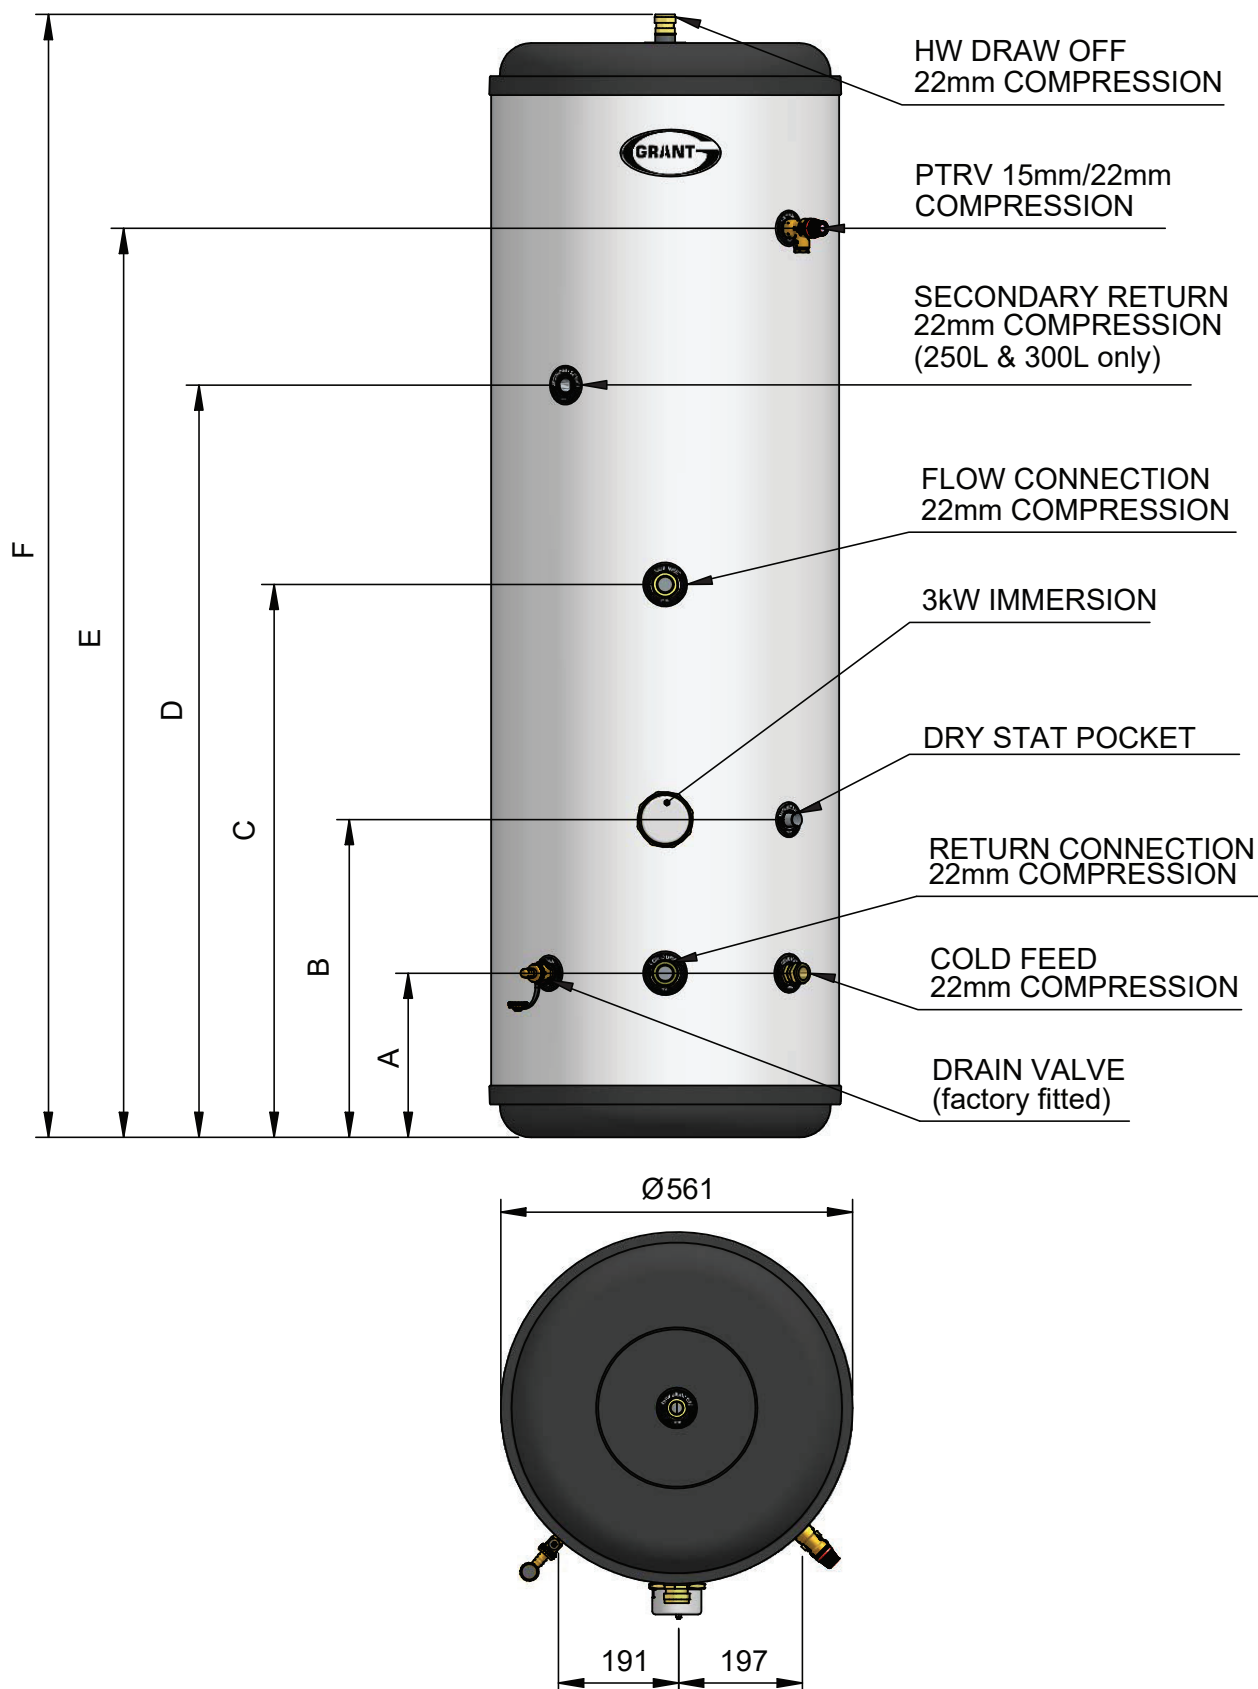

Figure 2-1: Grant QR single coil Heat Pump cylinder dimensions
1. The primary flow and return connections from the heat pump should be made to the flow and return connections of the cylinder. Refer to Figures 2-1 to 2-3, as appropriate.